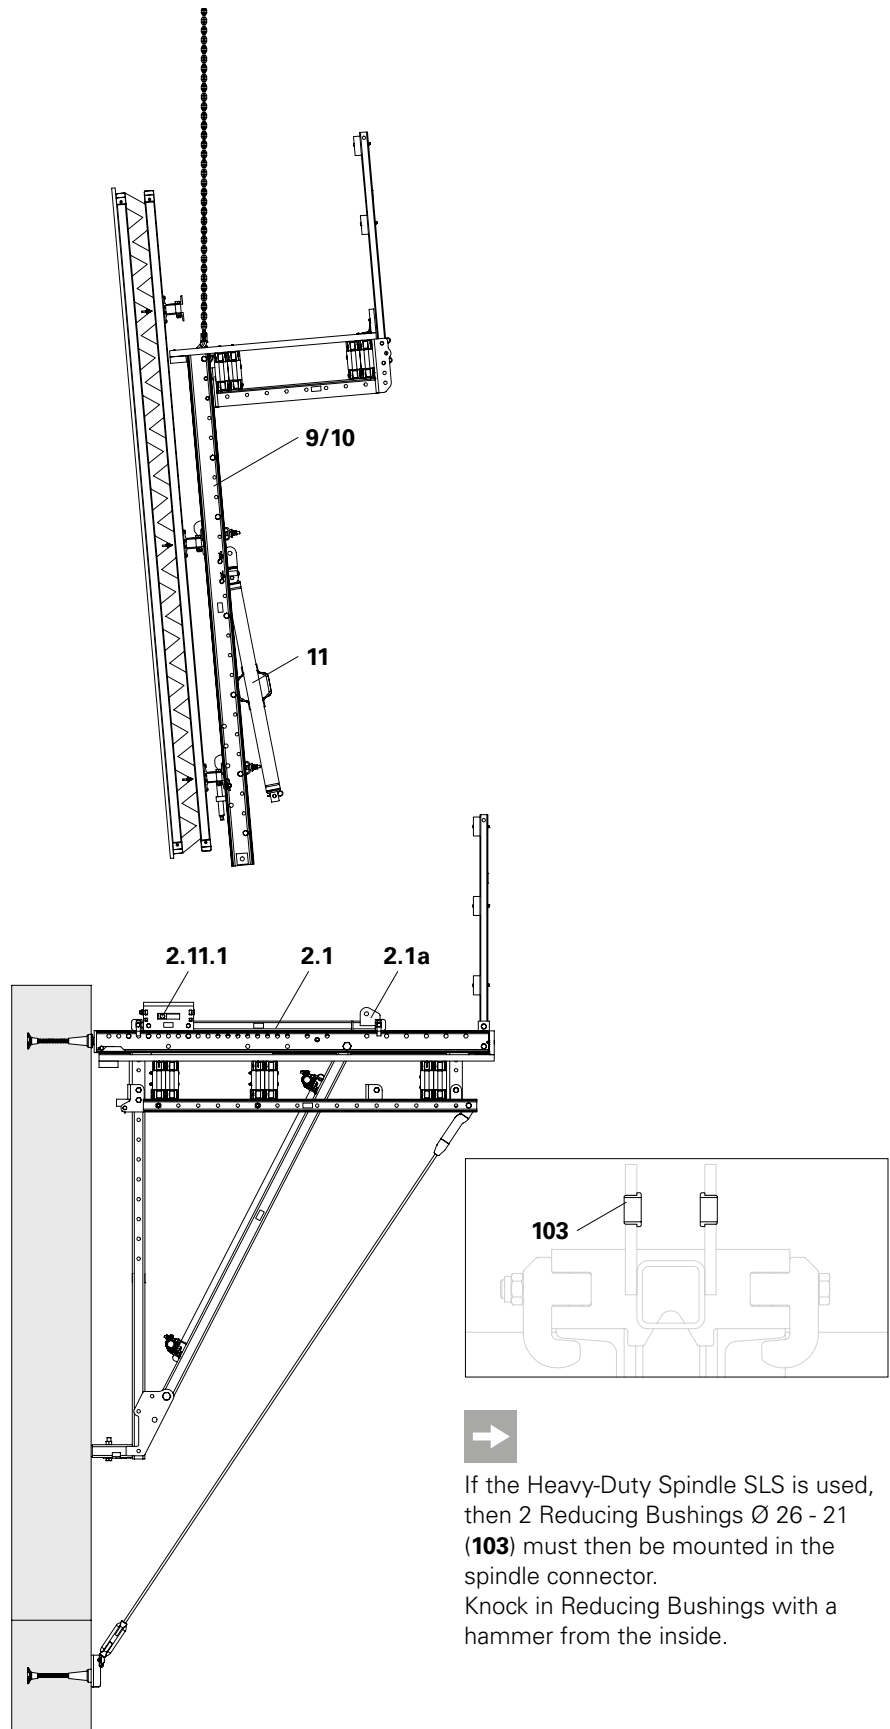

Fig. B3.04
3. Adjust the Heavy-Duty Spindle SLS (11) to the required length and mount on the strongback using locking pin  $\varnothing$  21 mm.
6. If necessary, mount Reducing Bushing  $\varnothing$  26 - 21 (103).
7. Vertically position the formwork, move the heavy-duty spindle (11) into the Spindle Connector SCS (2.1a) and mount using locking pins  $\varnothing$  21 mm.
9. Align formwork (see Section B4). (Fig. B3.04)